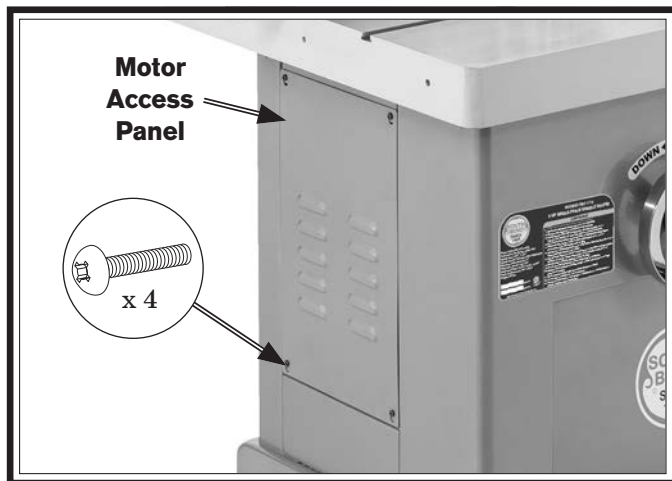

Figure 100. Location of motor access panel and securing screws.
6. Open cabinet door and loosen (4) Phillips head screws enough to remove motor access panel (see **Figure 100**).